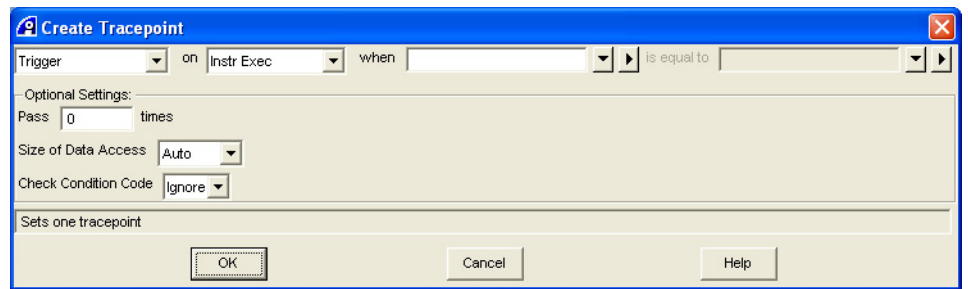

Figure 10-58 Create Tracepoint dialog box
- a. Select **Debug → Tracepoints → Create Tracepoint...** from the Code window main menu to open the Create Tracepoint dialog box. Figure 10-58 on page 10-54 shows an example: